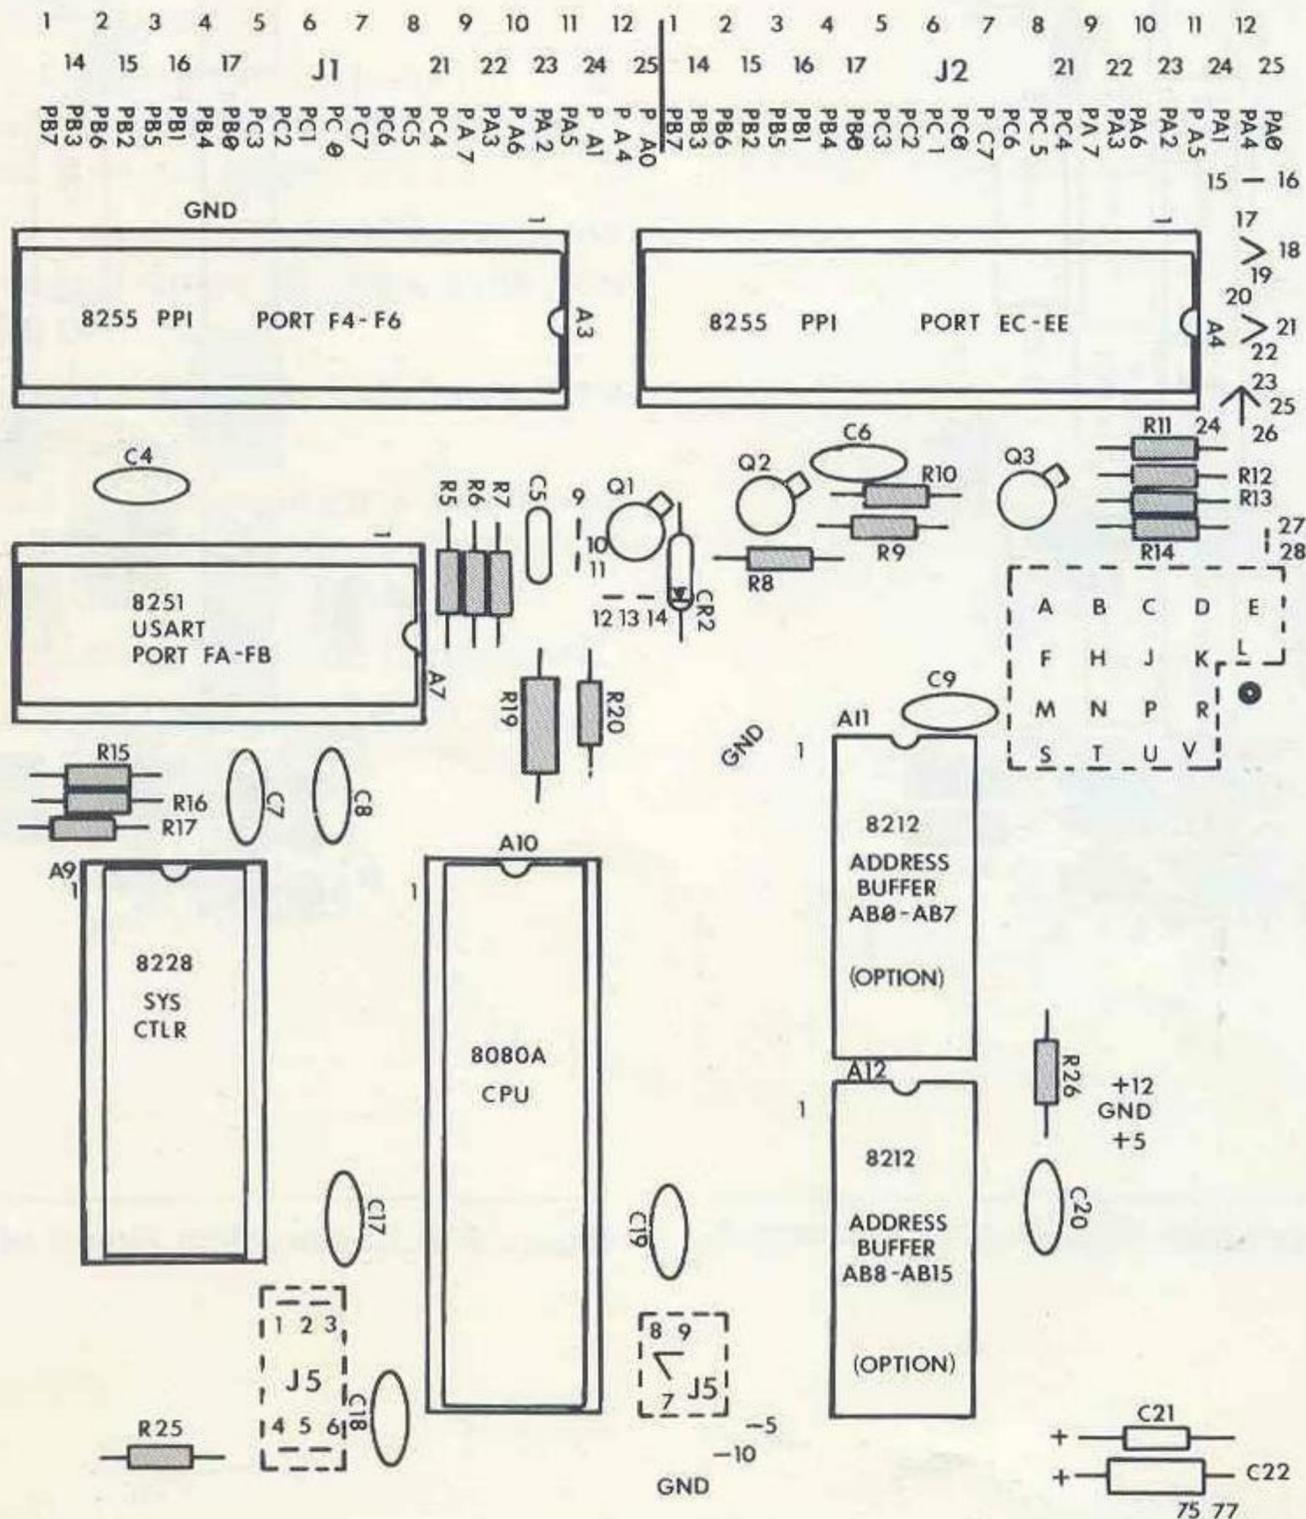

Figure 2-7. Construction Figure #5.
- ☐ Referring to Table 2-5, solder resistors R5-R17, R19, R20, R25, and R26 in place. Figure 2-7 shows this area of the board.